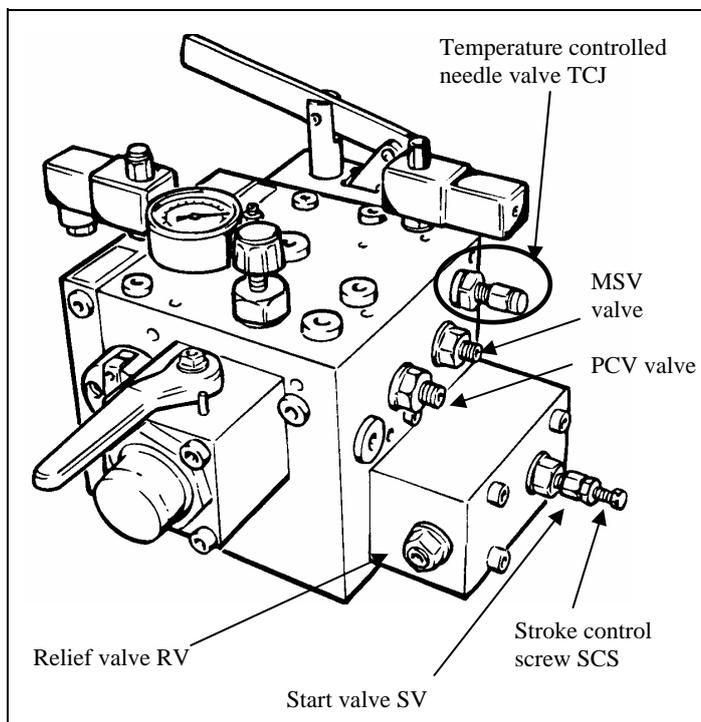
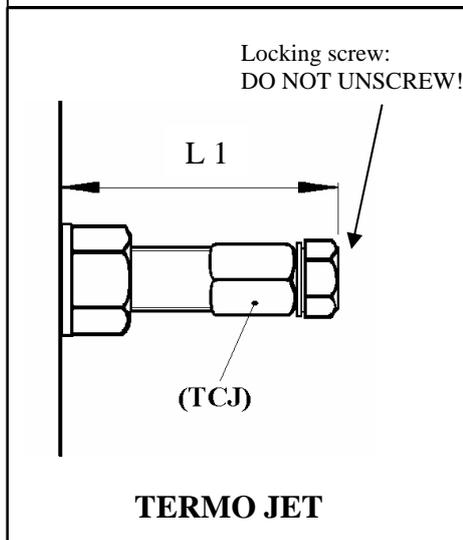
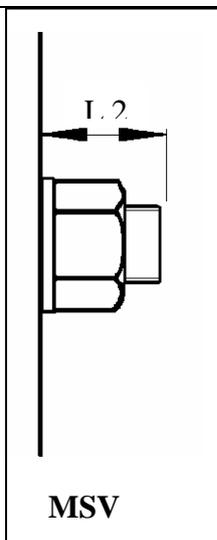
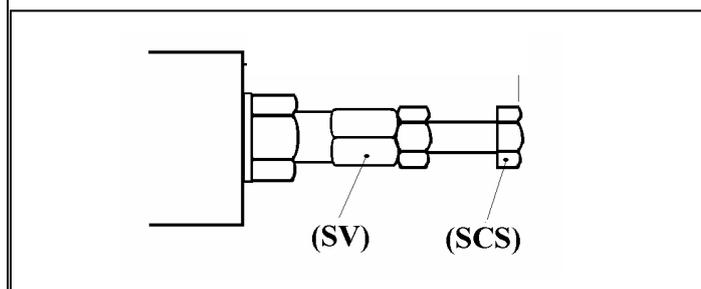

Fig. 1
Fig. 3
Fig. 4
Fig. 5
Unscrew the relief valve (RV) about 9 anti-clockwise turns. (spanner 19mm + socket head wrench 6mm) (Fig1).
Unscrew the by pass valve (SCS) with 10 anti-clockwise turns (spanner 13mm + socket head wrench 5mm). (Fig1, Fig5).
Unscrew the start valve (SV) until you can see 3 threads (spanner 19mm + spanner 13mm). (Fig1, Fig5).
Check the length of the main speed screw (MSV), see Tab1 page 2/2 for the correct  $L_2$  value. ). If the length is different from its nominal value, adjust it. (Spanner 19mm + socket head wrench 6mm). (Fig1, Fig4, Tab 1)
Screw the thermal compensator (TCJ) turning the screw in clockwise **by HAND** until mechanical stop. **Do not insist** to avoid that the TCJ break. Unscrew the TCJ with 3 anti-clockwise complete turns. Blocking the TCJ valve with a spanner 13mm, slightly close the lock nut with a spanner 19mm. The nominal length of TCJ screw is about  $L_1= 40$ mm. (Fig 1, Fig3).
Screw the by-pass valve (SCS) until you read on the manometer the value corresponding to the lift minimum static pressure. Close the lock nut. (spanner 10mm). (Fig 1, Fig5).
Screw the relief valve (RV) until you read on the manometer the value corresponding to the 140% of maximum static pressure. Close the lock nut. (spanner 19mm). (Fig 1).